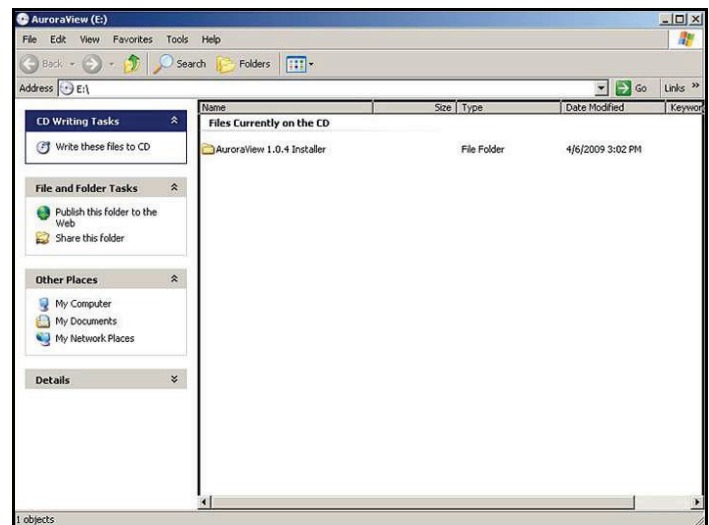

Figure 20: Initial screen
2. The installation program should launch automatically (see *Figure 20* below). If it does not, select Start → Run → Browse.